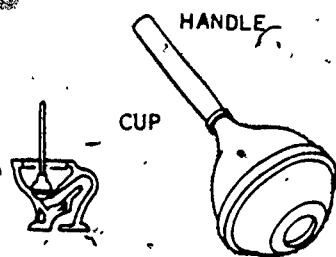

Figure 3-50. Force cup.
*Force cup.* A similar tool called a force cup, see figure 3-50, is used on fixtures such as water closet bowls and wall-hung urinals that have integral traps. These fixtures have cone-shaped bottoms that enable the force cup plunger to be more effective than the vacuum plunger. To achieve the best results with a force cup, insert it down into the outlet of the fixture with the fixture filled with water as near the top as possible. Alternate pushing and pulling strokes of the handle should work the obstruction loose and flush it down the drain. Do not use this method of clearing a stoppage when it is suspected that a large or irregular-